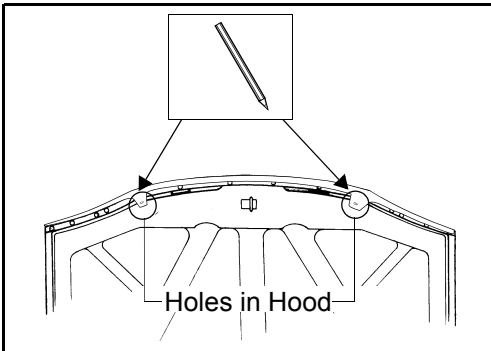

Figure 2.
2. Trial fit the Hood Protector centrally onto the hood. Mark the two holes in the hood that correspond to the slots in the Hood Protector, as shown in figure 2. Remove the Hood Protector.